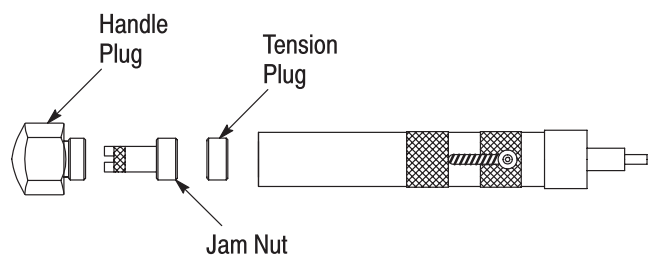

Figure 3
1. Remove the handle plug and jam nut from the handle. See Figure 3.